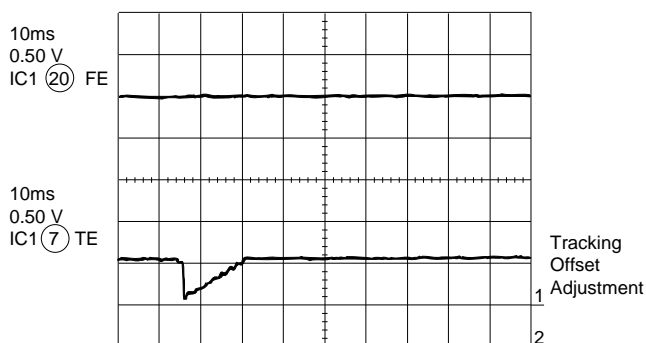

Figure 15-2
2. Tracking Offset (Fig. 15-2)